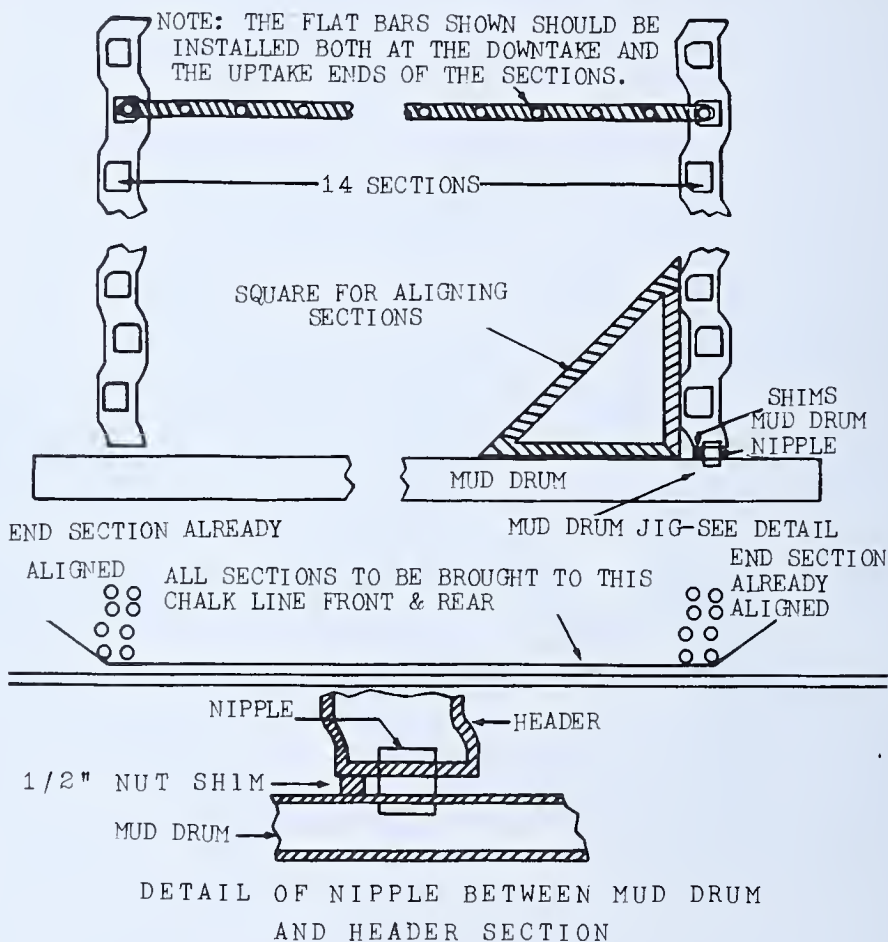

FIG. 466 — Boiler Section Setting Details
1. With first section hooked up in position as shown in Fig. 465, align it with a large square. Use a  $\frac{1}{2}$ " nut between the bottom of the downtake header and top of the mud drum. See Fig. 466.
6. Place flat bar across entire length of downtake sections between dogs on handhole caps and nuts as shown in Fig. 466.